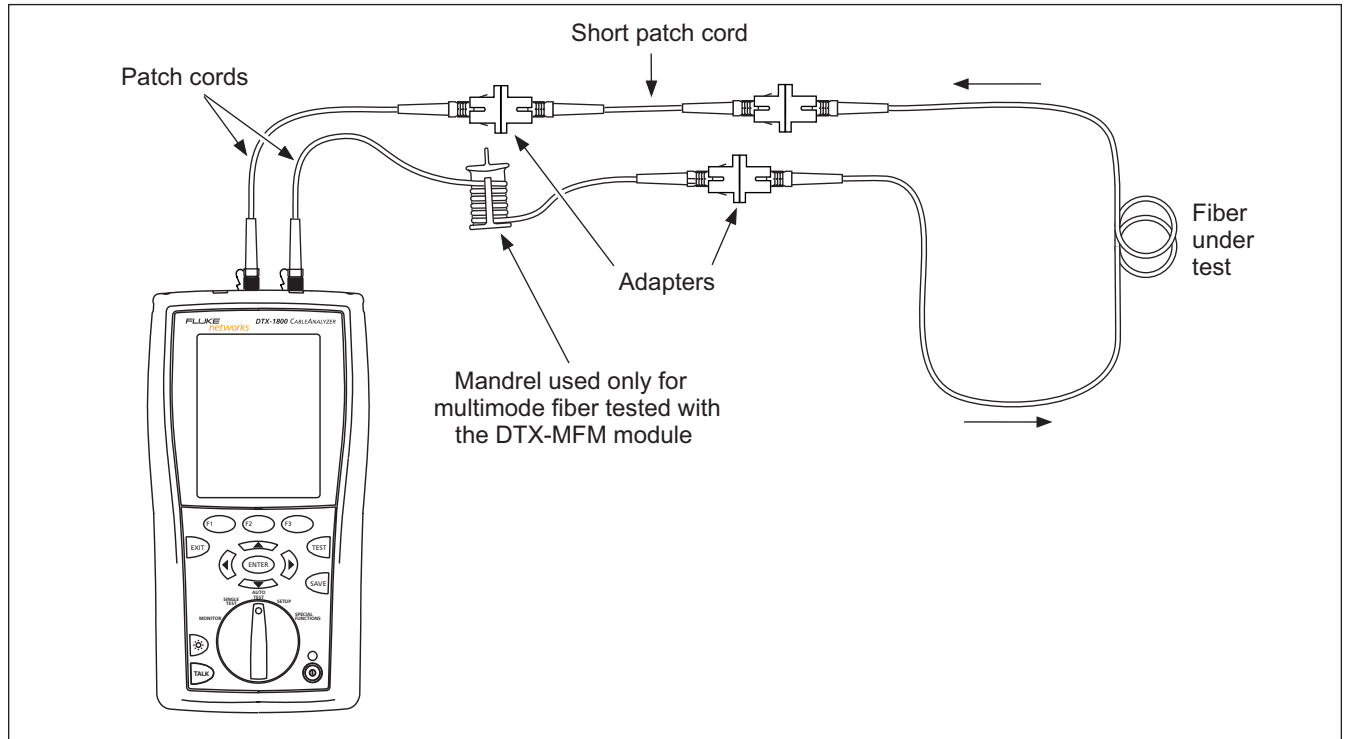

Figure 10. Loopback Mode Test Connections
- 5 Clean the connectors on the cabling to be tested; then connect the patch cords to the cabling. The tester shows connections for the test method you selected. Figure 10 shows connections for Method B.